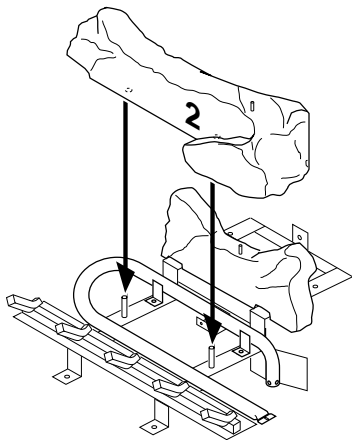

Figure 46 - Installing Log No. 2
2. Rest log #2 (large front log) on the pins on the front part of the grate (see Figure 46, page 24).